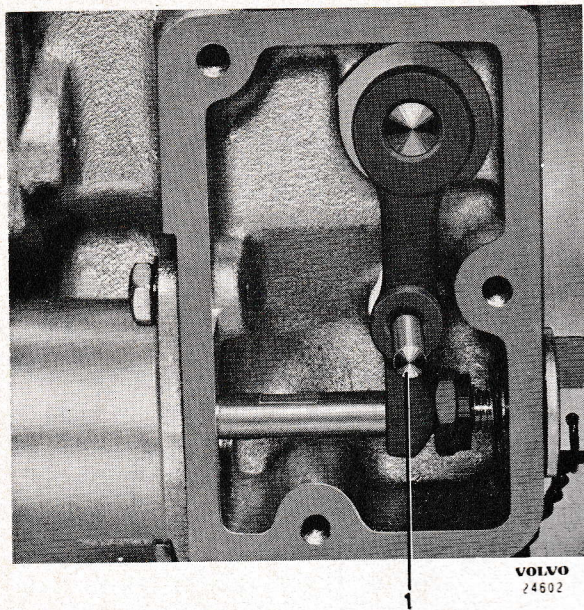

Fig. 8. Adjusting the control valve
2. Remove the cover the control valve arm. Engage the overdrive (with the engine stopped and 4th speed engaged). If the control valve is correctly adjusted, it should be possible to push a 3/16" (4.75 mm) diameter pin through the hole in the arm and into the housing, see Fig. 8. If not, adjust until the correct position of the arm is obtained.